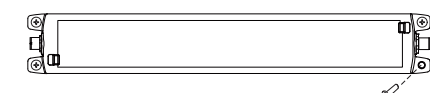

Figure 2. Installation
- After tapping the mounting holes to a flat and sturdy surface, use four M5 screws for mounting, as indicated in the following figure. The recommended torque for the M5 screw is 2.8 N·m. [Refer to Figure 2. Installation]